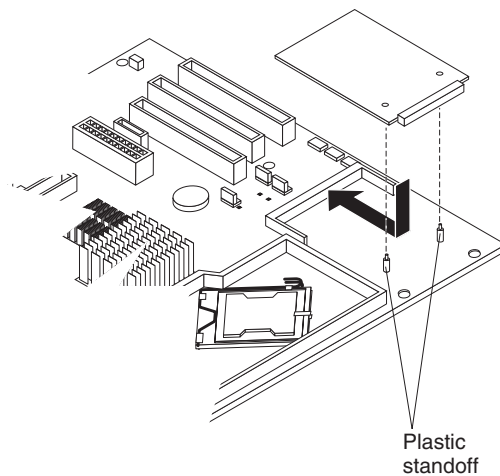

Figure 40. Installing a mini-PCI adapter
2. Lower the rear (connector) edge onto the plastic standoffs and gently press down on the connector until the standoffs securely snap into the mini-PCI adapter (see Figure 40).